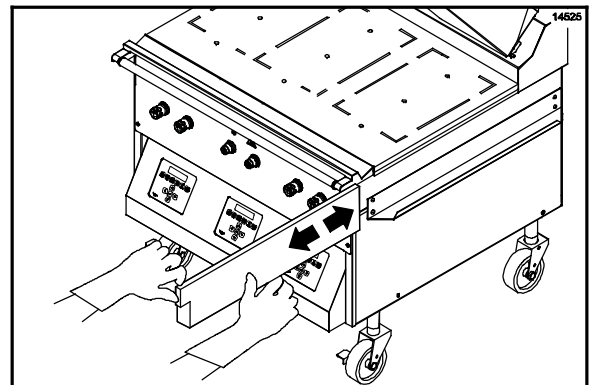

Figure 86
12. Remove, empty, and reinstall the grease pans. (See Figure 86.)